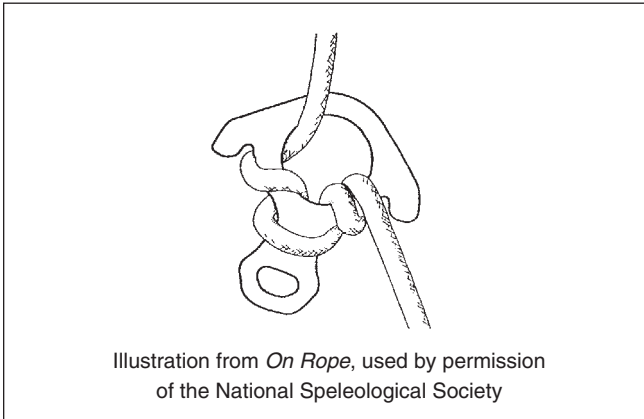

Figure 6e—Locking off the figure-8 descender—first bind.
- C. Pull the running end of the rope down firmly toward you until it securely wedges into position (figure 6e). Take this step without hesitation because the braking action of the device is reduced as you bring the running part of the rope up toward the figure-8 descender. When using the Rescue-8 with side-mounted ears style descender, if the running part of the rope is fully wrapped around both side-mounted ears, this step occurs in a controlled manner. No reduction in braking action occurs as you bring the running part of the rope up toward the descender.